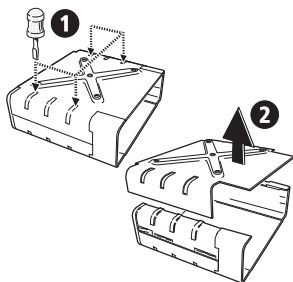

Figure 3: Cradle Disassembly
- 2 Disassemble the cradle by placing it on a firm surface and applying pressure down on one of the middle ribs of the plastic side moulding with a screwdriver. This will release the ribs along this edge from the slots in the metal cover with which they mate. A similar approach will release the other edge of the metal cover which can now be lifted clear (Figure 3).